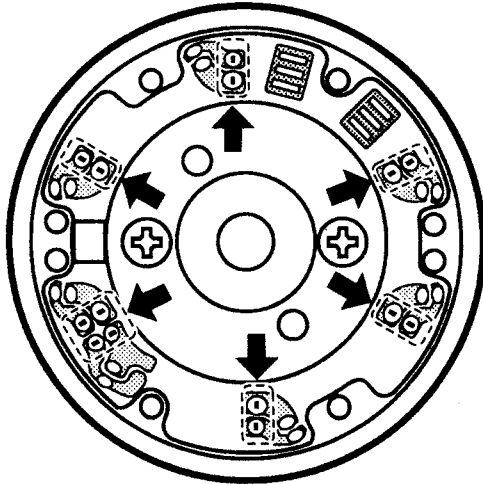

Fig. 3-19
- 2) Unsolder the 14 relay leads pointed by arrows shown in Fig.3-19.